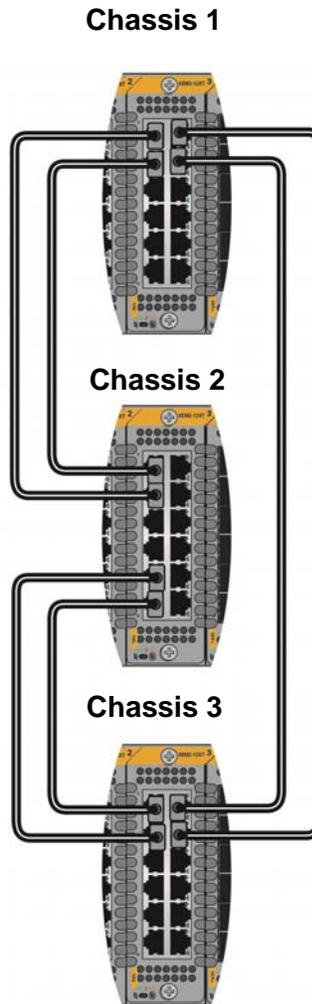

Figure 20. Stack with Three Chassis
- With stacks of three or four switches, the number of physical links in the trunk has to be the same on all switches. The example in Figure 20 is a stack of three chassis with a valid trunk of two links between chassis 1 and 2, chassis 2 and 3, and chassis 3 and 1.